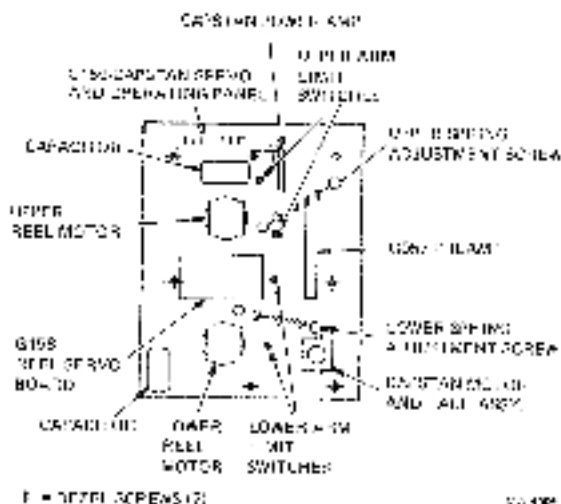

Figure 4-1 Deck Plate Assembly (Rear View)
- Limit Switch (DEC P/N 70-15666) – Check tension and mechanical adjustment (Figure 4-1).
4. Remove bezel covering the casting by removing seven screws from the rear of the casting (Figure 4-1).
2. Replace bezel by fastening seven screws in the rear of the casing (Figure 4-1).
4. Remove bezel by unscrewing seven screws from the rear of the deck plate (Figure 4-1).
6. Replace the bezel by fastening seven screws in the rear of the deck plate (Figure 4-1).